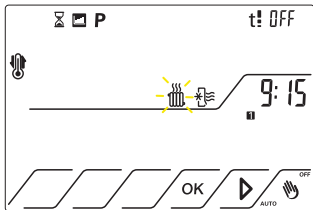

Fig.13
4.1.3 Press  up to position on  that it will start to flash and OFF appears. Fig.13